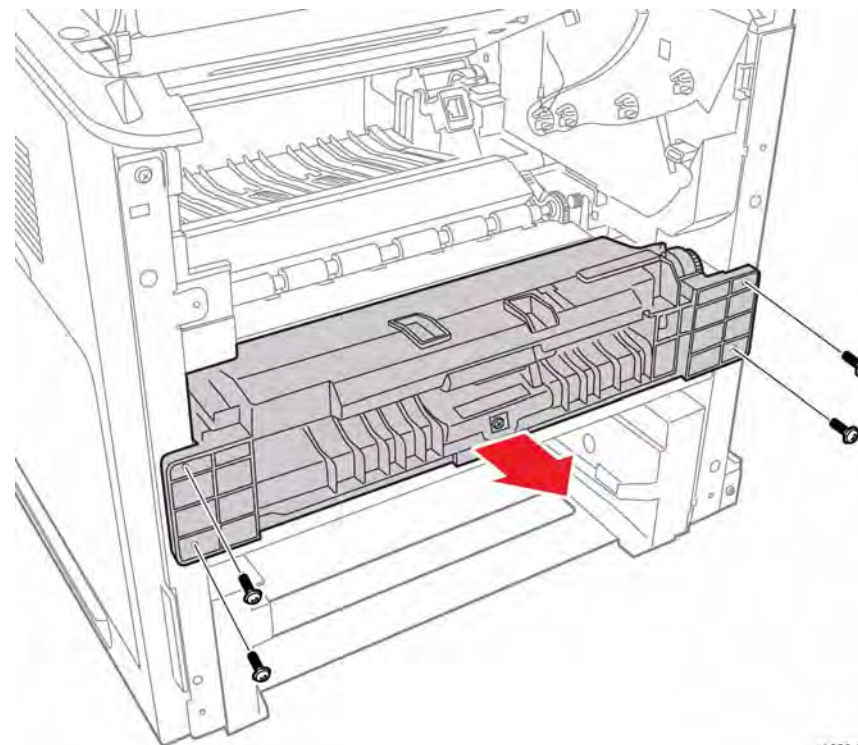

Figure 2 Remove the Feed Assembly screws
9. Remove 4 screws (metal) that secure the feeder to the chassis, Figure 2.